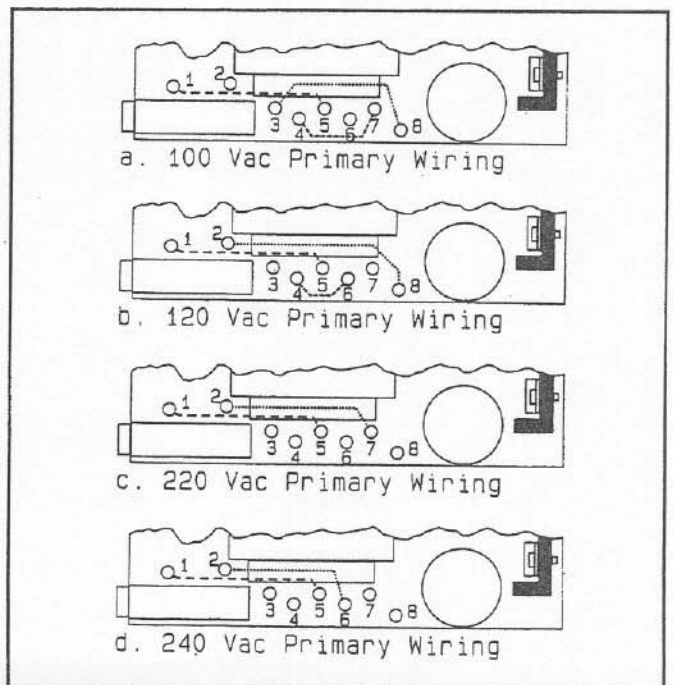

Figure 8: Primary Wiring Configurations
The crossover is provided with the primary of the power transformer strapped for 120 Vac operation from the factory. Refer to Figure 8 for wiring details.
3. Locate the eight voltage select solder cups near the power transformer. Referring to Figure 8, reconnect the leads corresponding to the desired primary voltage.